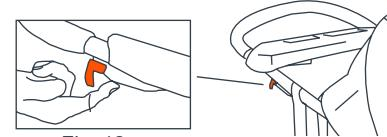
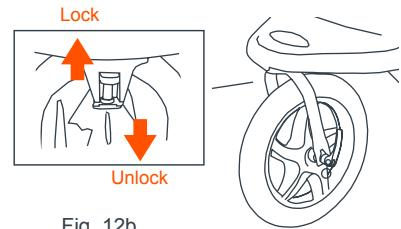

Fig. 12a
Fig. 12b
- 12)** • The swivel jogger is equipped with a front wheel locking device. Fig. 12a is a remote release lever located under the right side handle. Pull to disengage the wheel and push to engage the locking device located under the footrest. Fig. 12b front wheel lock works in a vertical motion from top to bottom, locking and unlocking the wheel.